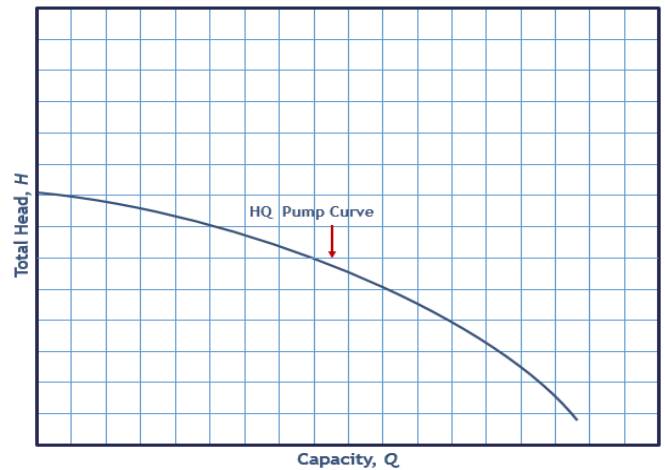

Figure 1: Typical Pump Curve
The first step toward troubleshooting the centrifugal pump is to look at the Pump Curve (Figure 1). This curve is published by the manufacturer to plot the pump’s ability to produce flow against a range of pressure. Flow rate is typically shown on the horizontal axis as Q and in units of Gallons per Minute (gpm). Head (H) is shown on the vertical axis in units of feet (ft).